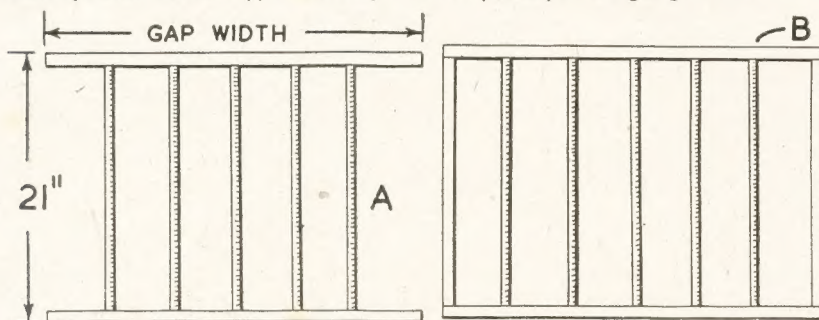

Fig. 1—An ordinary barrier (A) and a suitable stairway gate (B)
Three barriers such as shown in Fig. 1, made of $\frac{3}{4}$ in. dowel rod and 1 in. by $\frac{3}{4}$ in. batten cost just under eight shillings, with an extra shilling for 6 ft. of quarter-round beading as side fixings. You will probably find that the shop sells lengths of dowel rod ready cut, and for these gates 2 ft. lengths are ample. For ease of stepping over for a person of average height, the gates should not exceed a total height of 21 ins., making it necessary to trim down pre-cut dowel rod to about 20 ins.
A gate at the bottom of a stair may be less easy to fix unless it has sides as shown in Fig. 1 (B). The sides can be added after the dowel rod type of gate is finished. But a more workmanlike job can be made by making a tongue-and-groove joint at each corner as shown, before the gate is first assembled.